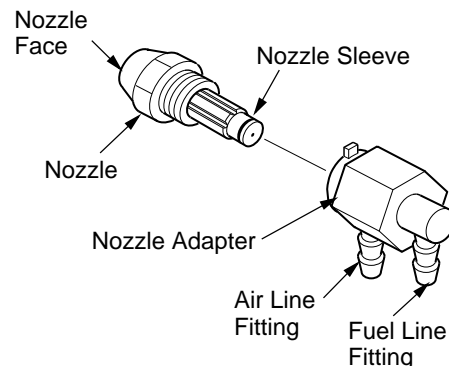

Figure 24 - Nozzle and Nozzle Adapter
6. Carefully remove nozzle from the nozzle adapter using 5/8" socket wrench (see Figure 24).
9. Replace nozzle into nozzle adapter until nozzle seats. Tighten 1/3 turn more using 5/8" socket wrench 4.5 to 5.1 N-m (40 to 45 in-lbs). See Figure 24.